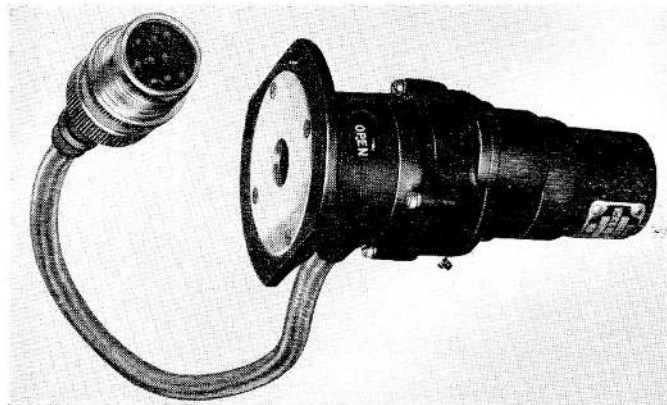

Fig. 1. Actuator, Type C5005/2
1. The C5005/2 rotary actuator is similar to that described in the main chapter. It has an adapter housing fitted over the splined drive coupling, the adapter housing being secured to the face of the switch housing (fig. 1). A flange at the extreme end of the adapter housing is recessed and a circular plate with a small bore in the centre (to allow coupling of the actuator) fits in the recess. A slot in the wall of the housing reveals an indicator which is marked SHUT and OPEN. This indicator is fixed to the driving shaft and rotates with it. Thus at one extreme position the word shut appears at the slot, and at the other extreme the word OPEN appears. These words refer to the positions of the equipment being operated by the actuator.